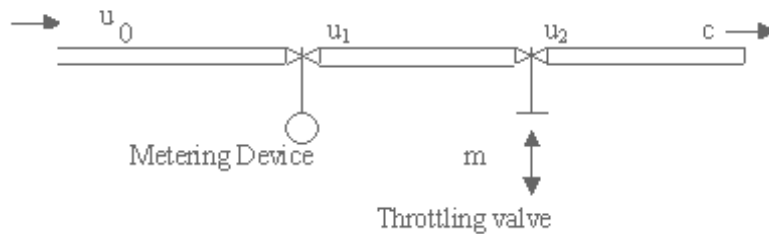

Figure 5a
5. (a) Write the process equation for the flow rate process shown below figure 5a. u_0, u_1 and u_2 are the upstream head, head after metering device and downstream head respectively.